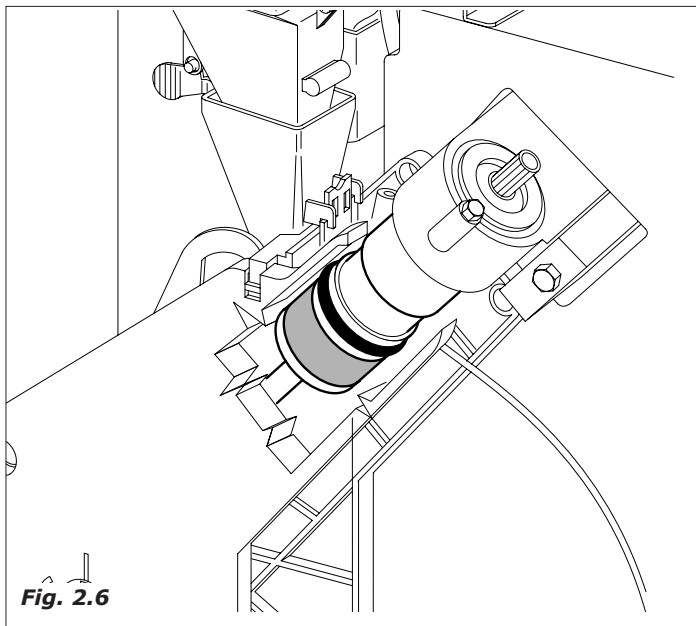

Fig. 2.6
- the rotation group geared motor brings it into the dispensing position and simultaneously compresses the ground coffee (Fig.2.6).